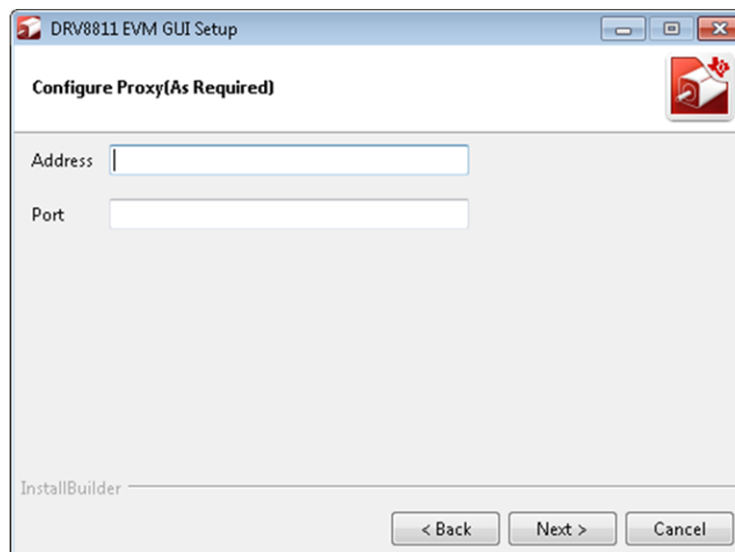

Figure 9. Configure Proxy
7. If LabVIEW RTE is selected as a component to install, a screen appears as shown in Figure 9. Configure the proxy settings as required. This screen is to download the LabVIEW RTE 2014 from ni.com, Click **Next** to continue the installation.